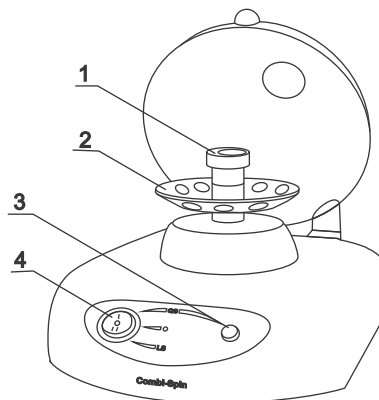

Fig.1 General view
The unit is provided with the fixation mechanism for all the types of the above-mentioned rotors; operator can easily change rotor for the desired type of tubes in 3-5 s. To change a rotor (fig.1/2) hold it with one hand and turn the vortex head (fig.1/1) counterclockwise to set rotor free. Change the rotor and turn in the vortex head back.
- 4.2.1. Turn the switch (Fig. 1/4) into position I (**QS**, Quick Spin).
- 4.2.2. Open the lid and place **EVEN** number of tubes to the rotor sockets (Fig.1/2) opposite one another. Close the lid.
- 4.2.3. Press the **QS** (Fig. 1/3) button for quick mixing / sedimentation and hold it pressed for the desired time. The unit will automatically when the **QS** button is released.
- 4.2.4 Turn the switch (Fig. 1/4) into position O (OFF).
- 4.3.1. Turn the switch (Fig. 1/4) into position I (**QS**).
4.3.2. Gently holding a tube with fingers at its upper part press the tube's lower part to the vortex head cavity bottom (Fig. 1/1).
4.3.4. Turn the switch (Fig. 1/4) into position O (OFF).
4.4.1. Open the lid and place EVEN number of tubes to rotor sockets (Fig. 1/2) opposite one another. Close the lid.
4.4.2. Turn the switch (Fig. 1/4) into position II (**LS**, Lon Spin) to start centrifugation.